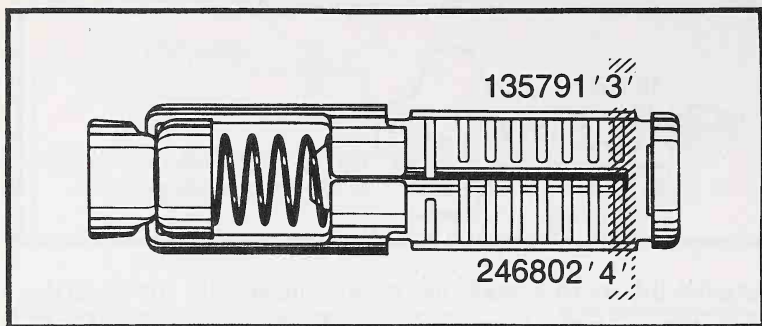

Fig. 10-27. In this keyway the seventh column is reserved for a series wafer.
2. Of the seven columns available, arbitrarily select one column which will be reserved in all keyway units for a series wafer (Fig. 10-27).